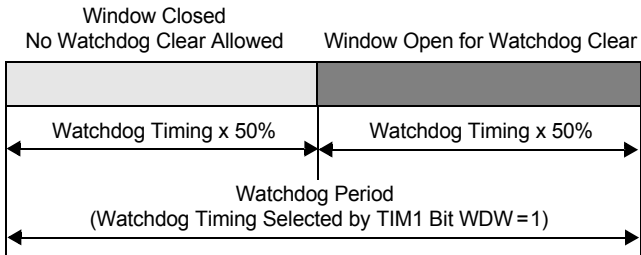
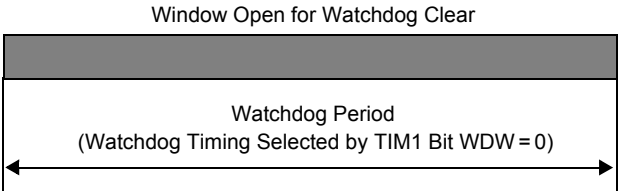

Figure 28. Window Watchdog
Figure 29. Timeout Watchdog
- TIM1—Controls the watchdog timing selection as well as either the watchdog window or the watchdog timeout option (Figure 28 and Figure 29, respectively). TIM1 is selected when bit D3 is 0 (Table 31). Watchdog timing characteristics are described in Table 32.